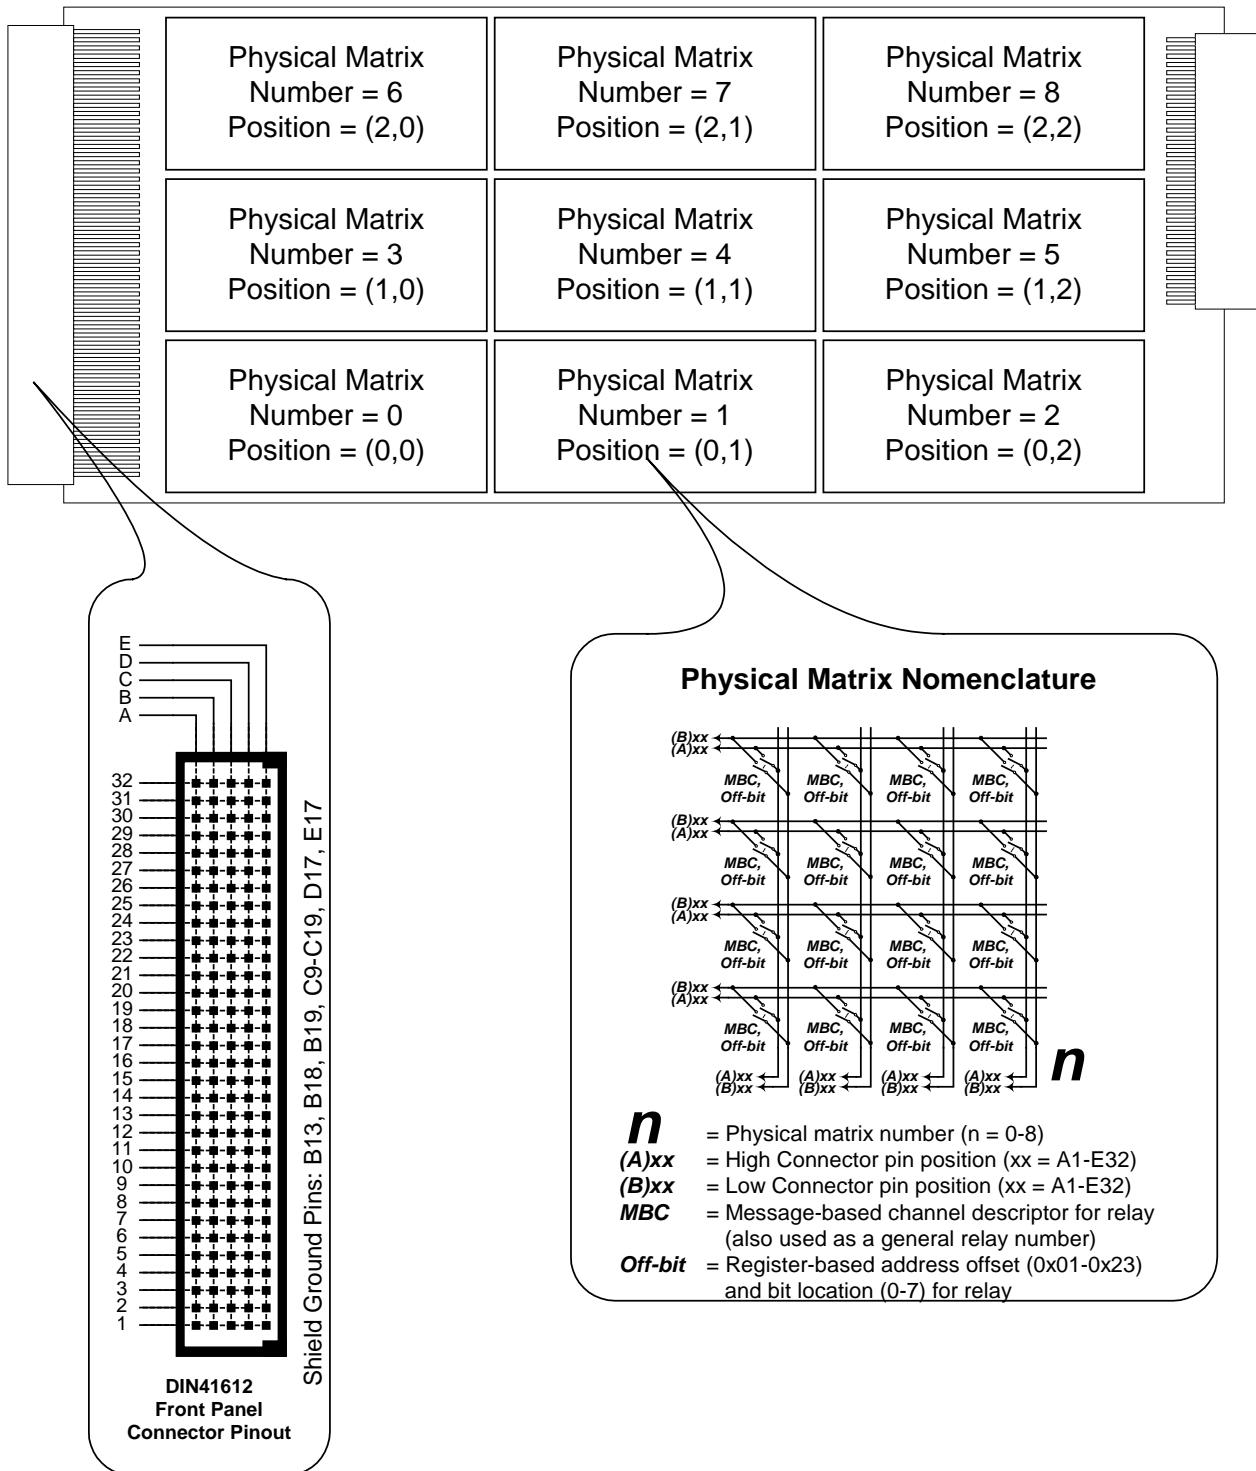
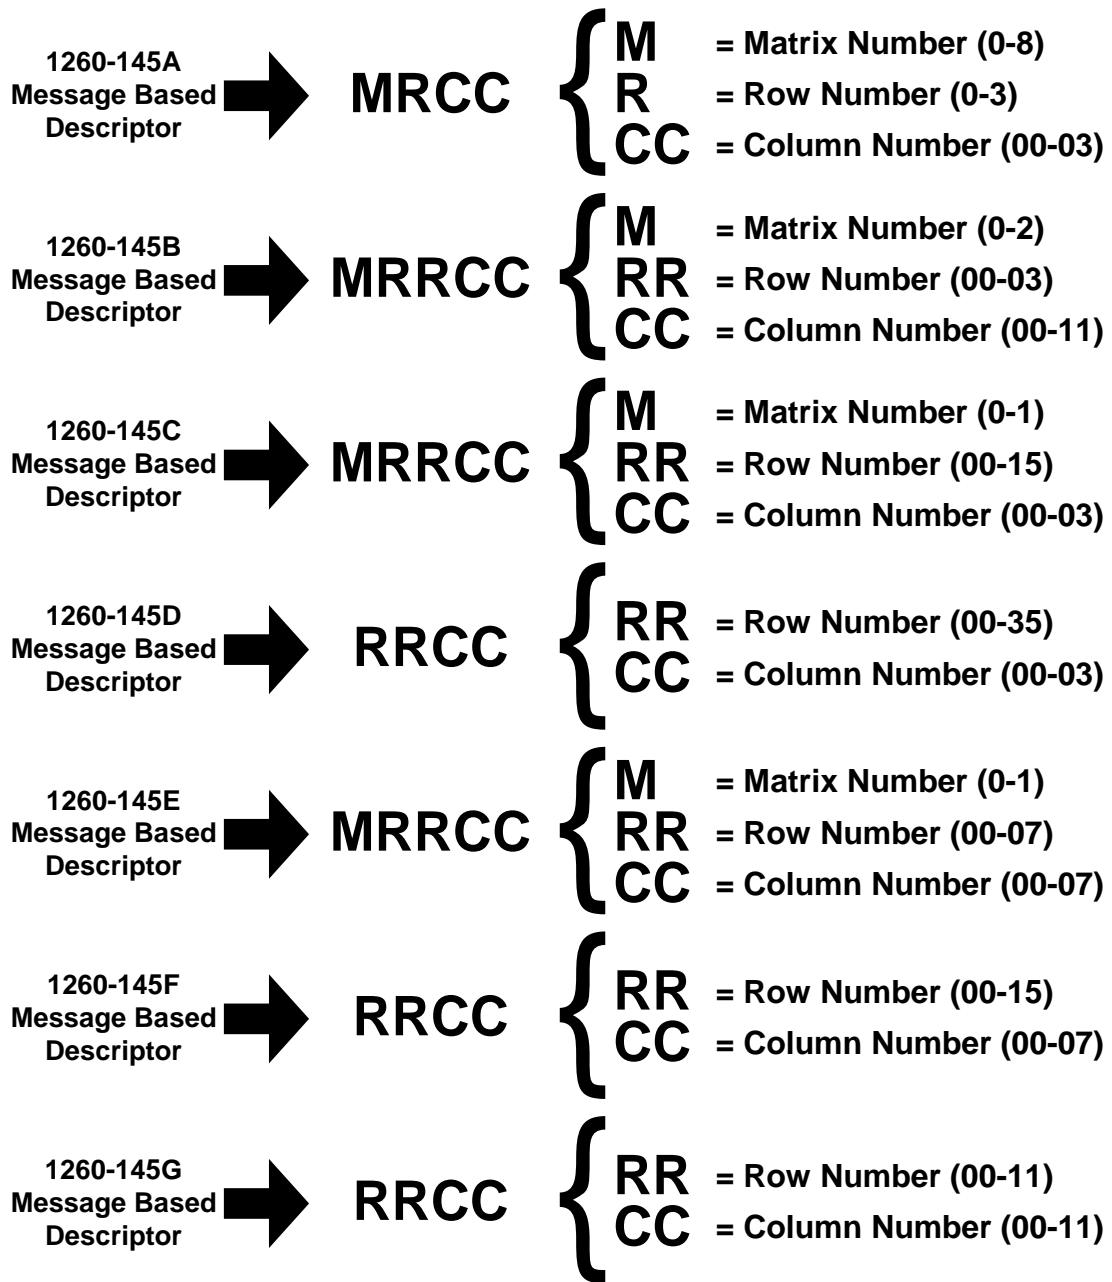
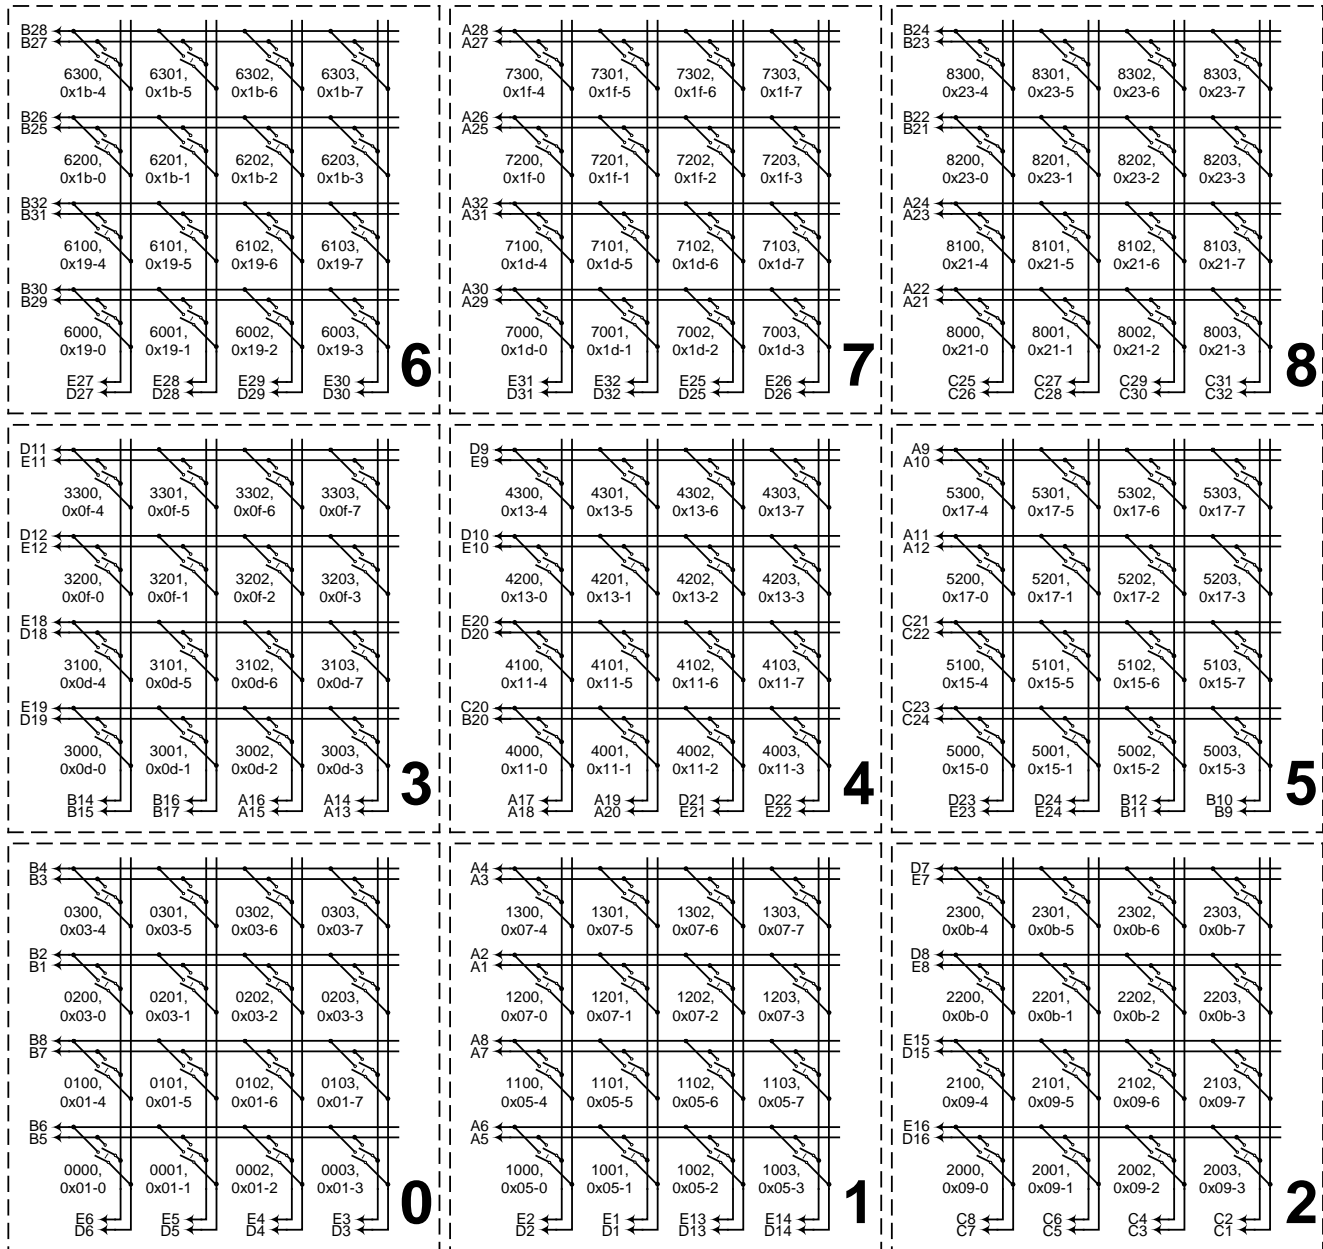

Figure 3-3, Numbering Nomenclature for all 1260-145 Variants
Figure 3-4, Message-Based Channel Descriptor to Physical Switch Orientation
Figure 3-5, 1260-145A Connector/Channel Organization
- <channel> is the 1260-145 relay to operate. This number can be obtained for a given card and a given relay by referring to **Figure 3-3** and one of the applicable card types illustrated in **Figures 3-5** through **3-11**. These figures provide a message-based channel descriptor (*MBC*) for each unique relay on any 1260-145 card.
The message-based descriptors (*MBC*) provided in **Figures 3-5** through **3-11** serve a secondary purpose. In addition to
specifying an exact relay (i.e. relay 1000), the syntax of the message-based descriptor indicates which matrix the relay belongs to, and the column and row numbers which intersect the relay position. **Figure 3-4** identifies for each 1260-145 variant how to interpret the message-based descriptor to determine these parameters.
The control registers for Adapt-a-Switch plug-ins and conventional 1260-Series modules are always on odd-numbered A24 addresses. This number can be obtained for a given card and a given relay by referring to **Figure 3-3** and one of the applicable card types illustrated in **Figures 3-5** through **3-11**. These figures provide a register-based address offset and bit position (**Off-bit**) for each unique relay on any 1260-145 card. Once this offset is known, the absolute address where data is to be written or read from is simply assembled by adding the base address to the offset:
The message-based descriptors (*MBC*) provided in **Figures 3-5** through **3-11** are not directly relative to register-based operation. They do, however, serve a secondary purpose in register-based operation. In addition to specifying an exact relay (i.e. relay 1000), the syntax of the message-based descriptor indicates which matrix the relay belongs to, and the column and row numbers which intersect the relay position. **Figure 3-4** identifies for each 1260-145 variant how to interpret the message-based descriptor to determine these parameters.